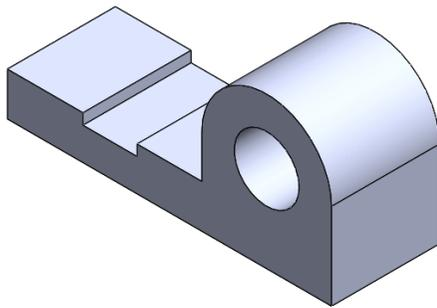
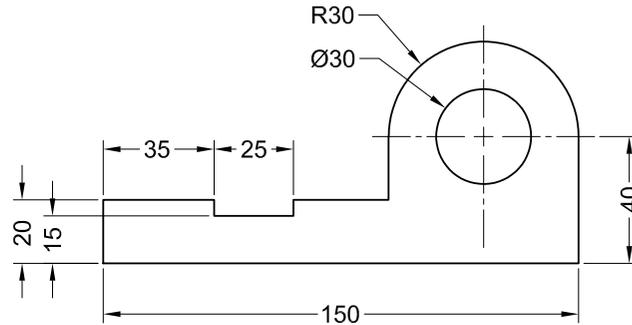

Figure 2-65 Solid model for Tutorial 3
Figure 2-66 Sketch for Tutorial 3
In this tutorial, you will draw the basic sketch of the model shown in Figure 2-65. The sketch to be drawn is shown in Figure 2-66. Do not dimension the sketch as the solid model and its dimensions are given for your reference only. **(Expected time: 30 min)**
- e. Draw the inner circle using the **Circle** tool, refer to Figure 2-66.
It is evident from Figure 2-66 that the sketch consists of an outer loop and an inner circle. Therefore, this sketch will be drawn using the **Line** and **Circle** tools. You will start drawing from the lower left corner of the sketch. As the length of the lower horizontal line is 150 mm,